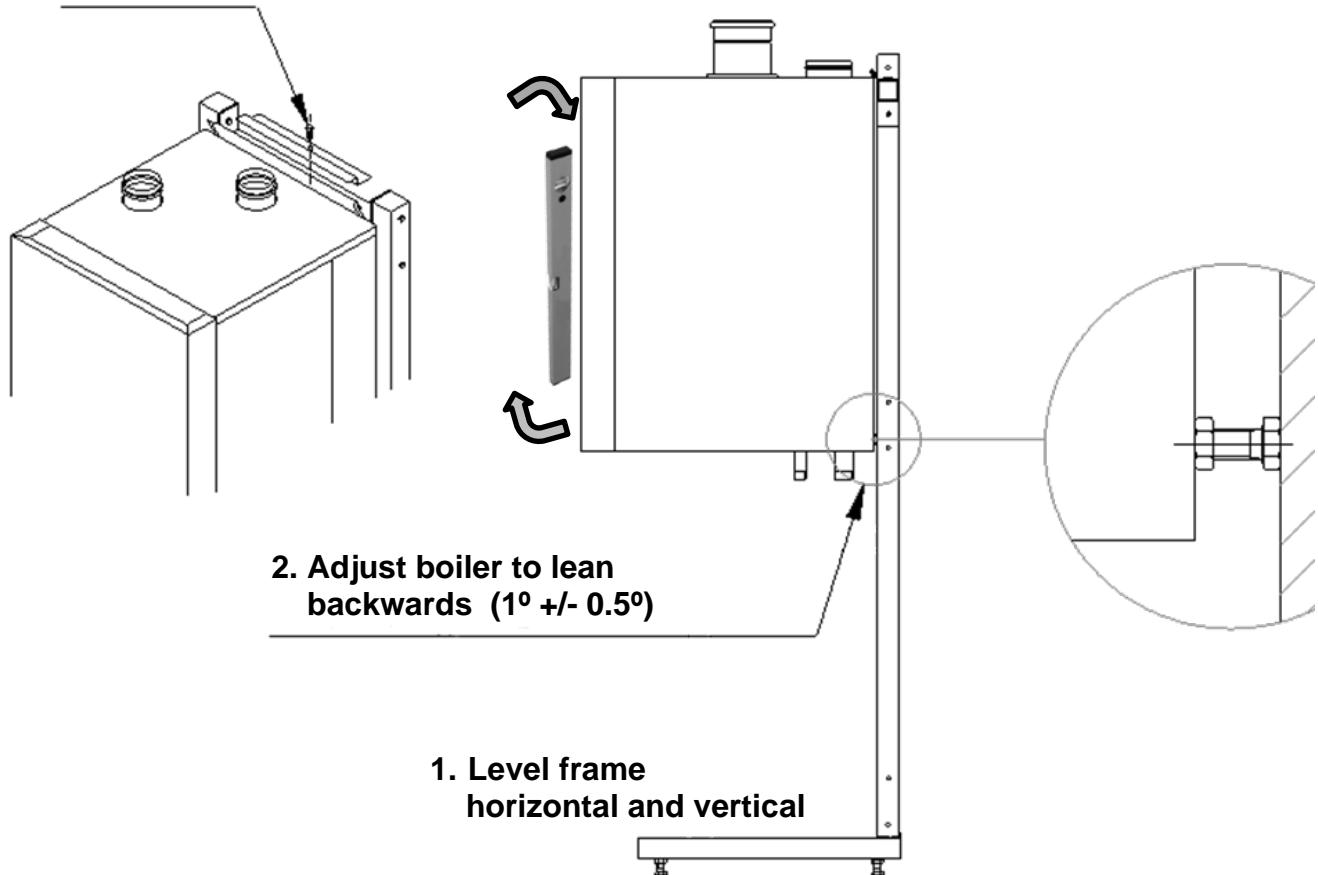

Figure 10.1 Mounting details
1. Before mounting the boiler on the frame, ensure that the frame is level both horizontally and vertically. If necessary adjust with the adjusting bolts on the lower side of the frame (see Figure 10.1).
The boilers must hang backwards slightly ($1^\circ +/ - 0.5^\circ$). If necessary, adjust with the adjusting bolts on the lower rear side of the back panel (see Figure 10.1). When the adjusting bolts are not sufficient, the space behind the bolts needs to be filled to achieve the correct position.